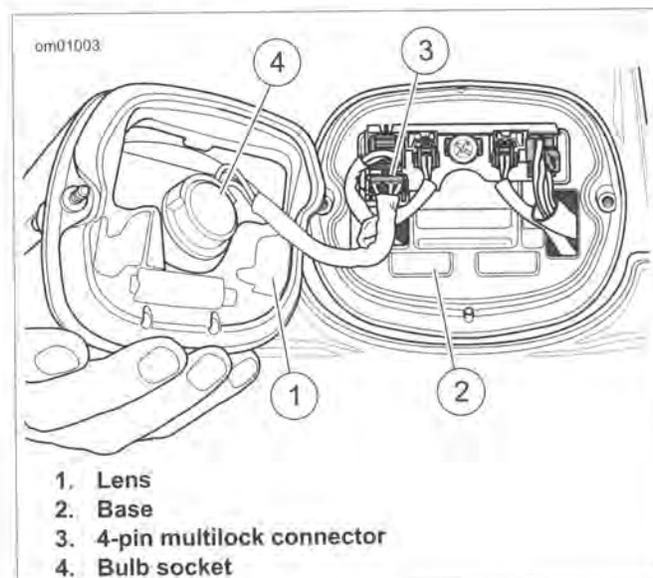

Figure 7-17. Tail Lamp Assembly
2. See Figure 7-17. Disconnect tail lamp connector (3).
3. Rotate bulb socket (4) 1/4 turn counterclockwise and remove from tail lamp assembly. Pull bulb from socket.
2. See Figure 7-17. Insert socket (4) into tail lamp assembly and rotate 1/4 turn clockwise.
3. Connect tail lamp connector (3).
5. See Figure 7-17. To avoid stressing wires, verify that tail lamp harness is positioned on the outboard side of the rear fender tip lamp and left turn signal lamp harness.
11. Verify that tail lamp harnesses are routed as shown in Figure 7-17.